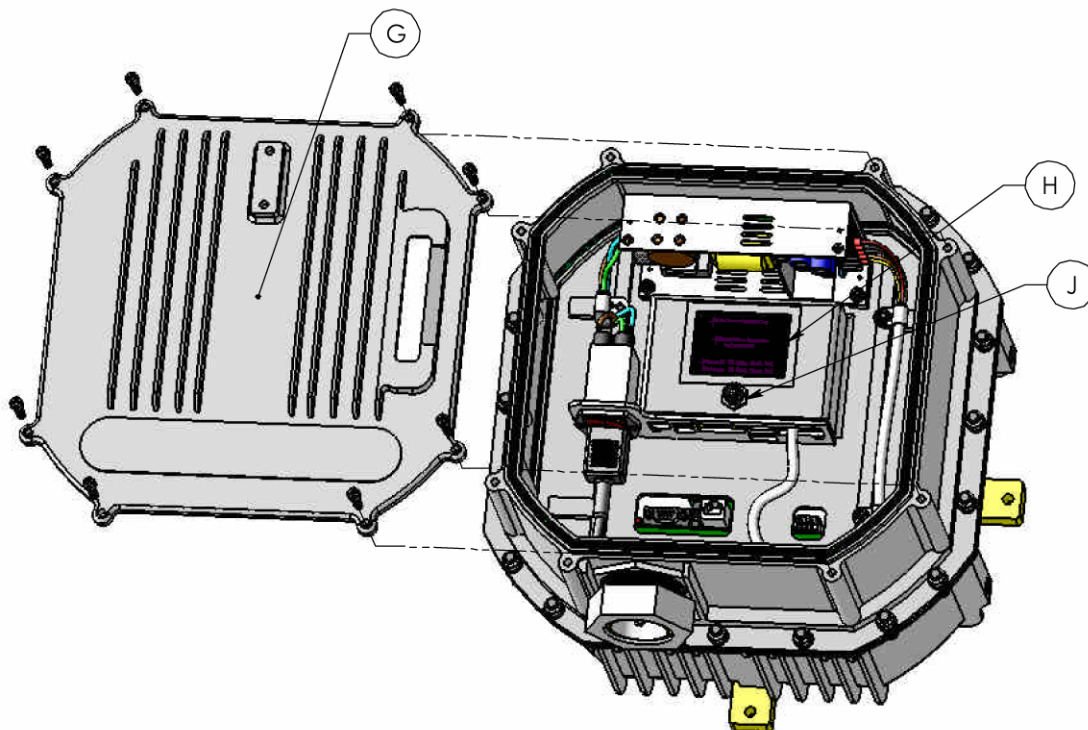

Figure 14. Radio Rear Cover Removed Showing Service Compartment.
2.8 Interfacing to RSSI Port (see Figure 14)
The RSSI (Received Signal Strength Indicator) voltage is a measure of received signal strength which will be used to assess alignment. To measure the RSSI voltage, remove the service compartment cover (G) of the Loea transceiver (see Figure 14). In the service compartment is a BNC connector (J). Connect a Fluke DMM Series 77 or similar to the BNC connector and note the RSSI mV reading. The chart (H) pasted to the flat surface to which the BNC connector is mounted will provide an indication of the correlation between mV and dB of link margin.
For each RSSI (in mV) reading there is an equivalent link margin reading (in dB). An example of the Chart is shown in Figure 14. By fine-tuning the alignment, try to get the RSSI voltage within ± 5 dB of the link margin specified in your final proposal and/or site survey report provided by a Loea certified engineer.